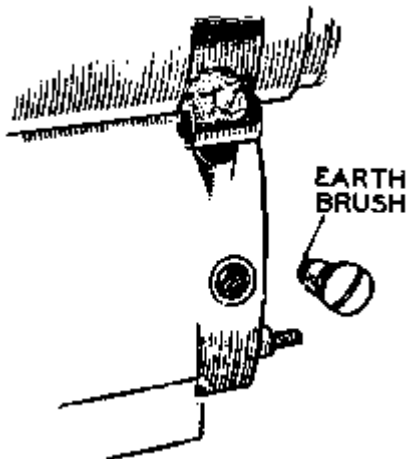

Fig. 52. Magneto earthing brush.
contact breaker off the shaft. Spring the wire ring (Q), securing the cam (R), out of its location in the contact breaker housing and remove the cam. Unscrew the cable stop (S) of the timing control and remove the control plunger (T). Remove the pick-up holder and the small earthing brush (Fig. 52) which
Refit the earthing brush (Fig 52).